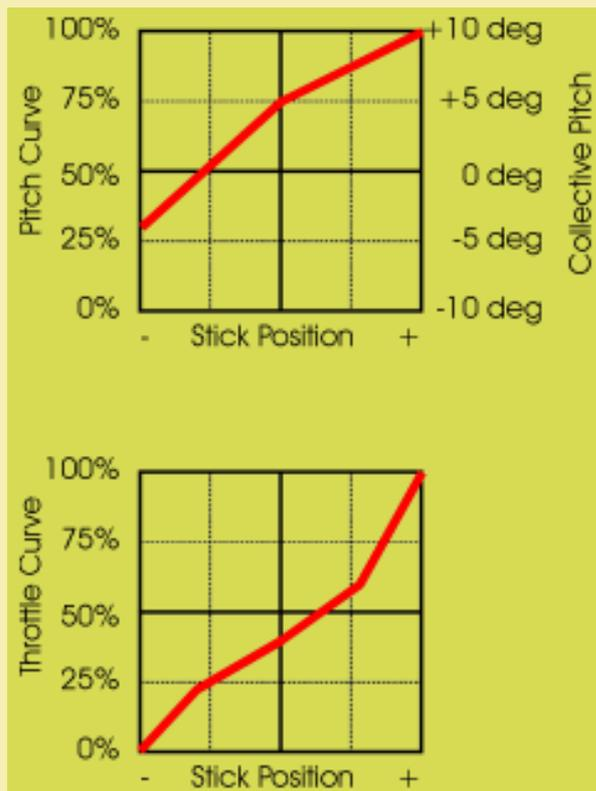

Fig. 9: Normal mode:
- Set the pitch curve to the desired values using the point edit function of the pitch curve on the transmitter. Leave the maximum and minimum values at 90%. The point value readings are about 30% / 73% / 100% for the low end / center / high end (Fig. 9). Check with a pitch gauge on the blades that you actually get the -4 / 5 / +10 degrees and finely adjust the curve points. Activate the pitch hover trim if you like to use it.
- Set the throttle curve to the curve displayed in Fig. 9. The shape strongly depends on the engine/muffler/fuel combination. In general a center point below 50% is a reasonable starting value. Activate the throttle hover trim function after setting the curve if you like. With this setting the engine stops if the throttle stick trim is set to its lower limit and it is possible to start the engine with the trim in the center position. Before take-off set the trim to its maximum position; this will give you the initial engine and rotor head speed.